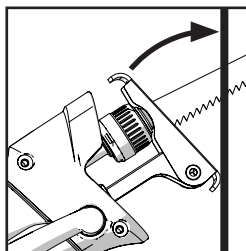

Fig. 10
- Hold the machine at an angle to the workpiece with the bottom edge of the workpiece contact plate resting firmly against the workpiece. **(Fig. 10).**